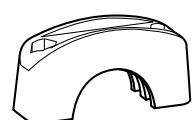

FIG. 5
- c. For cord sizes 0.95 to 1.09 - in diameter: Use Strain Relief Clamp only, no insert as in Fig.5.